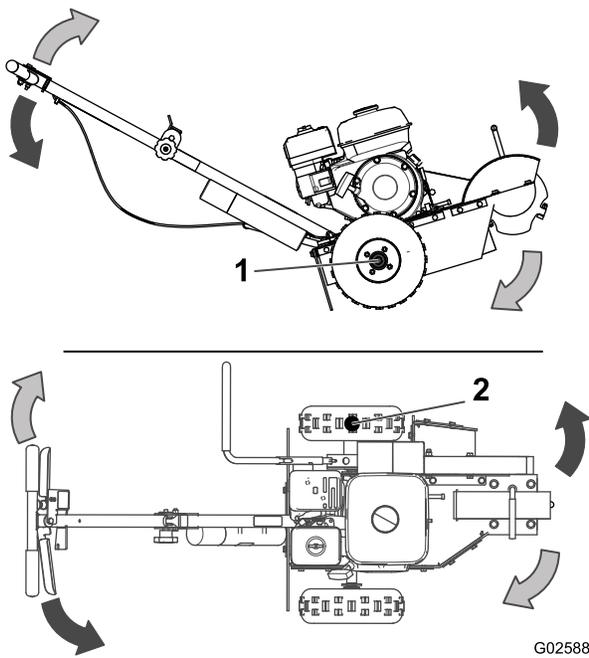
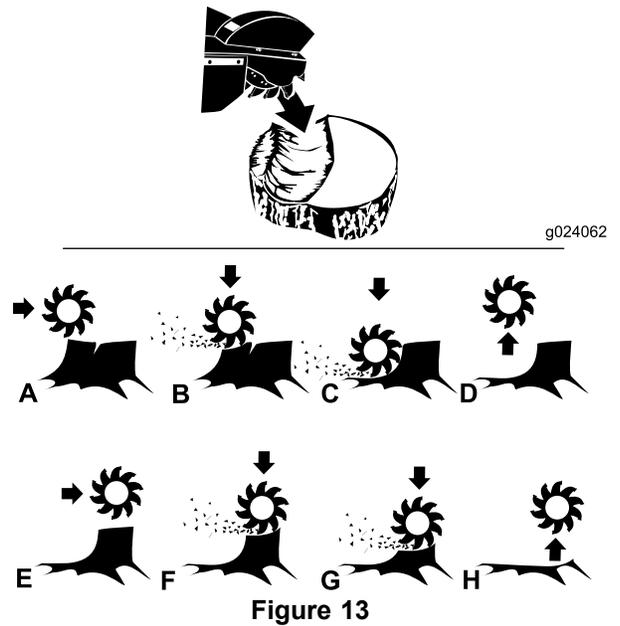

Figure 12
Figure 13
2. Push the handle down enough to raise the cutting wheel off the ground (Figure 12).
5. Swing the cutting wheel to one side (Figure 12), then lower it approximately 13 mm to 25 mm (1/2 inch to 1 inch) into the front-top corner of the stump. Swing the cutting wheel back and forth, lowering the cutting wheel approximately 13 mm to 25 mm (1/2 inch to 1 inch) before each sweep, until you have removed the front portion of the stump to ground level (A through D in Figure 13).
7. Repeat steps 5 and 6 until you have completely removed the stump (E through H in Figure 13).